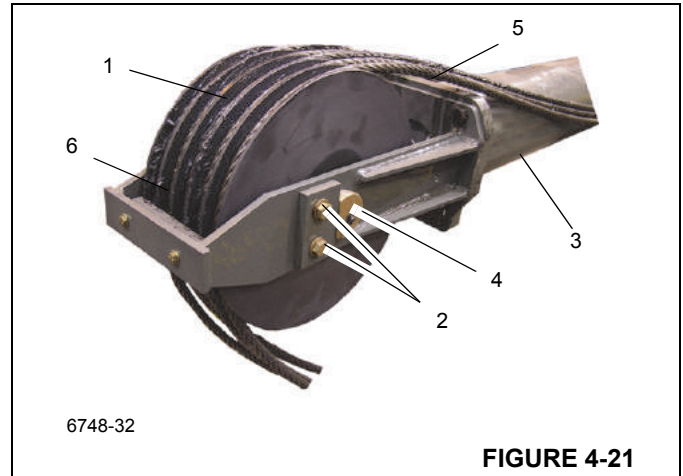

FIGURE 4-21
- b. Install grease fitting (4) (Figure 4-21) in shaft.
4. Route the five extension cables (5) (Figure 4-21) up and around the extend cable sheave assembly about one foot on to cylinder. To aid in assembly, secure the cables to the top end of the cylinder by wrapping tape around the cylinder.
5. Position the cable retainer (6) (Figure 4-21) over the sheave shaft and secure it to the sheave mounting assembly with four cap screws and washers. The retainer secures the sheave shaft.